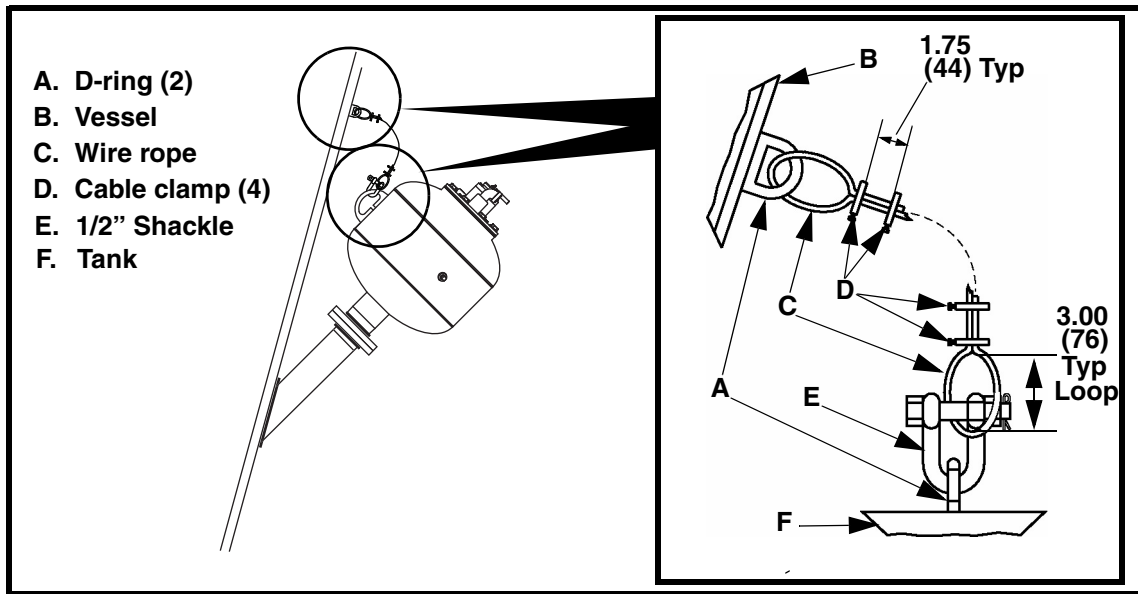

Figure 14. Installing Restraining Cable
1. Weld D-ring (A, Figure 14) onto storage vessel (B) with 1/4-in. (6-mm) field weld.
2. Insert wire rope (C) through D-ring on storage vessel, making a 3-in. (76-mm) loop. If wire rope supplied with air cannon is not long enough, loop and clamp it to an additional cable and attach additional cable to air cannon.
3. Clamp wire rope with one cable clamp (D) as close to loop as possible. Place another cable clamp 1-3/4 in. (44 mm) from first clamp.